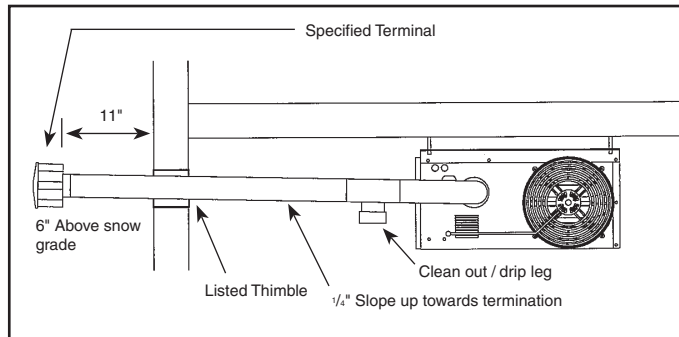

Figure 7.2
6. When vented horizontally, maintain a 1/4" per foot rise away from the heater. Place a drain tee and clean out near the unit. See Figure 7.1. Where local authorities have jurisdiction, a 1/4" per foot downward slope is acceptable. Use a drain tee with a clean out near the exit of the vent, see Figure 7.2, or allow the condensate to drip out the end. See Figure 7.3.